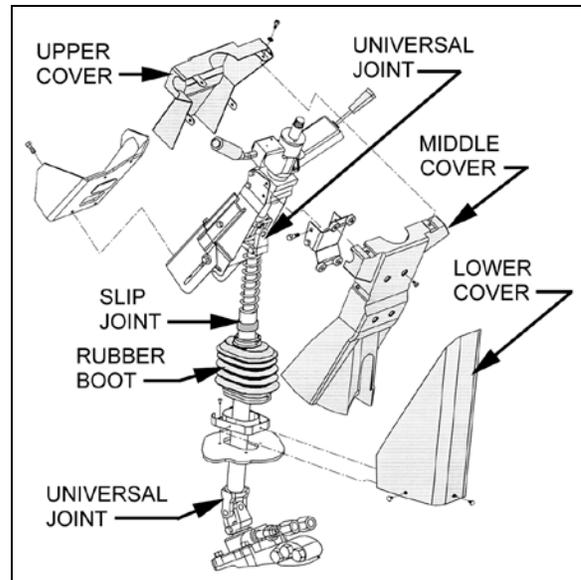

FIGURE 8: STEERING COLUMN COVERS 14040
To disassemble the steering column from system, refer to figure 8 & 9. The steering column has no lubrication points. The lower steering column U-joint is easily accessible through the front service compartment. The upper steering column U-joint and the steering slip joint are accessible from the front driver's area. To access these joints, proceed as follows:
1. From the front driver's compartment area, remove the three plastic fasteners on steering column lower cover. Remove the lower cover (Figure 8).
2. Remove the 2 clockspring mounting screws and then remove the clockspring. You will have to disconnect the clockspring harness connector located lower along the steering wheel column. If necessary, remove the steering column covers (Figure 8).